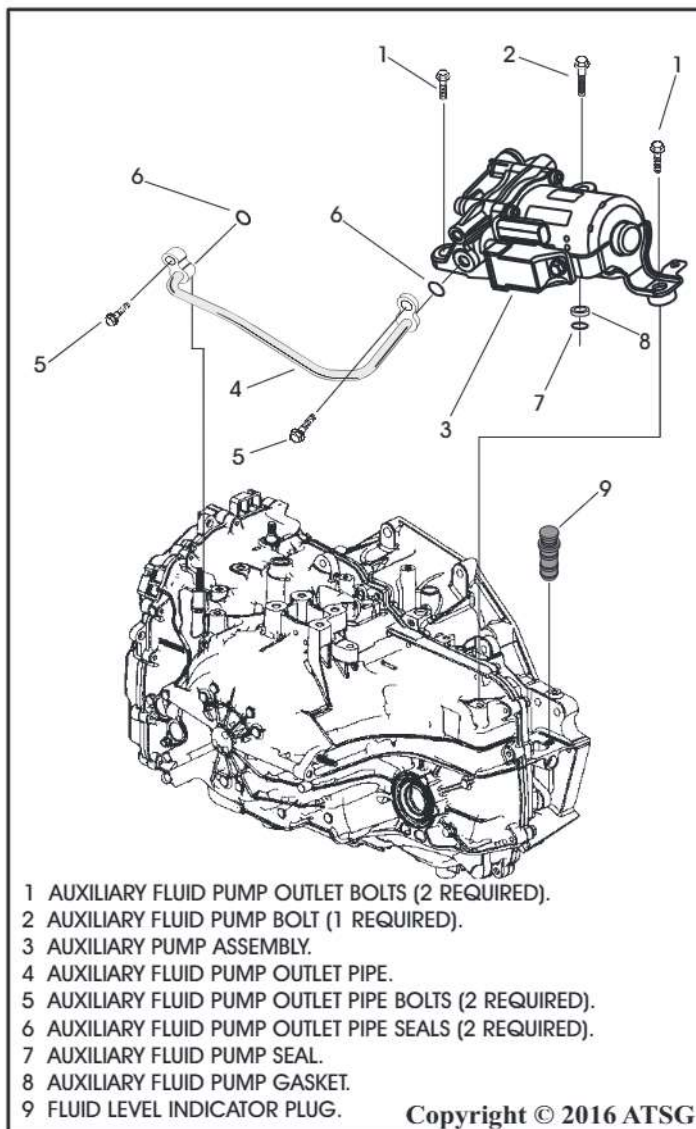

Figure 50
6. Remove the 5 bolts from the auxiliary pump motor and the auxiliary fluid pump outlet pipe as shown in Figure 50. Note the location of the longer bolt.
Note: It should not be necessary to remove the fluid level indicator plug, Figure 50, unless it was leaking or damaged. On some models a "dip stick" tube will be in this location.